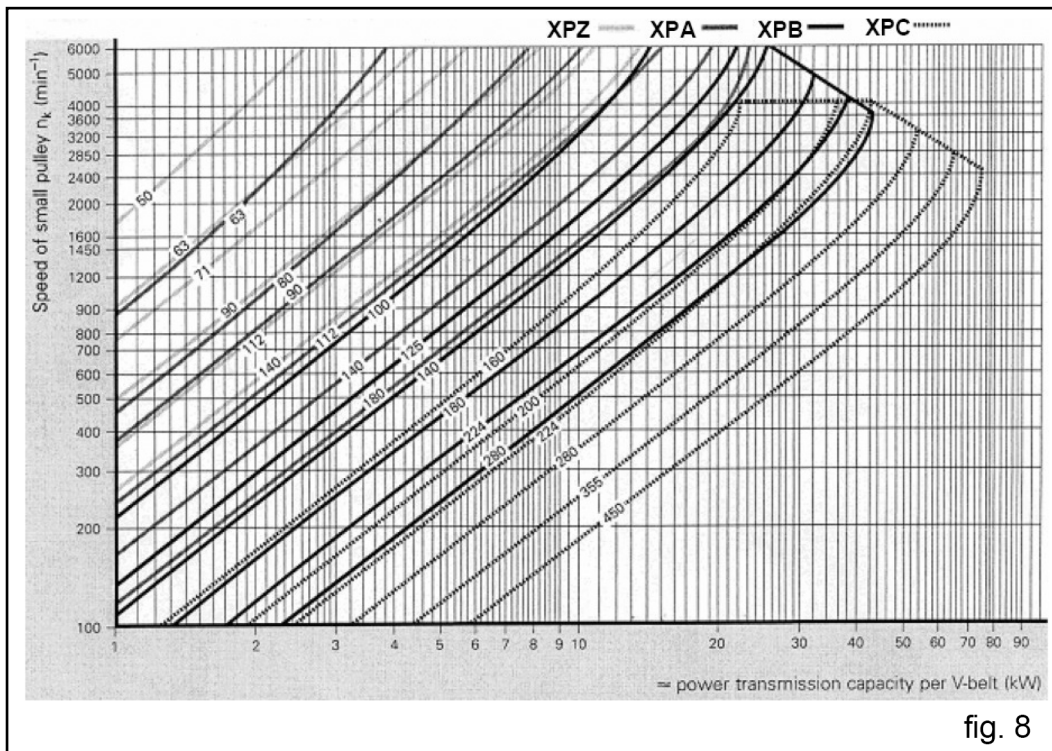
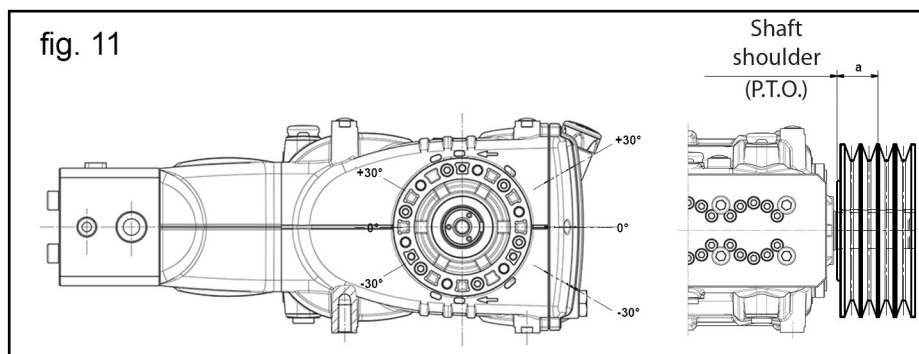

fig. 8
fig. 11
The pump can be controlled by a V-belt system. For this pump model, we recommend use of 3 XPB belts (16.5 x 13 serrated). Use an XPC profile only for long durations. Both the characteristics and transmissible power of each belt can be verified in the diagram in fig. 8, in relation to the number of rpm normally declared by the manufacturer. Minimum duct pulley diameter (on pump shaft): ≥ 6.30 In. (160 mm). The radial load on the shaft must not exceed 1011.64 Lbs (4500 N)(value necessary for layout definition). The transmission is considered adequate if the load is applied to a maximum distance $a=1.97$ in (50 mm) from the shaft shoulder (PTO) as shown in fig. 11.
B) Use high performance belts - for example **XPB** instead of **SPB** - as a lower quantity of belts for the same transmitted power may be necessary and a consequent shorter resulting distance compared to the shaft shoulder (PTO) "a" of fig. 11.
- E) Follow the direction of the belt pull as shown in fig. 11 for other needs contact the **Customer Service Department**.